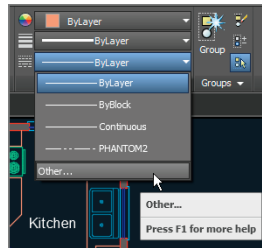

FIGURE 6.19 Accessing other linetypes
1. Open the Linetype drop-down menu in the Properties panel, and select `Other` at the bottom of the menu (see Figure 6.19).